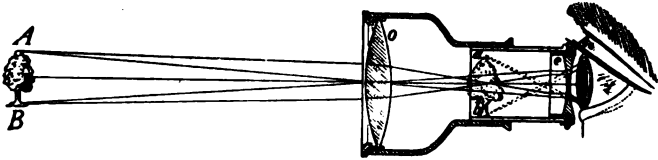

FIG. 398.—Formation of an image by an opera-glass. *a-b* is the virtual image.
**397.** The opera glass consists of a convex lens as objective and a *concave* lens as an eyepiece. The former tends to form a real image but the latter diverges the rays before a real image can be formed, the action of the two lenses producing an enlarged virtual image (as in Fig. 398) which